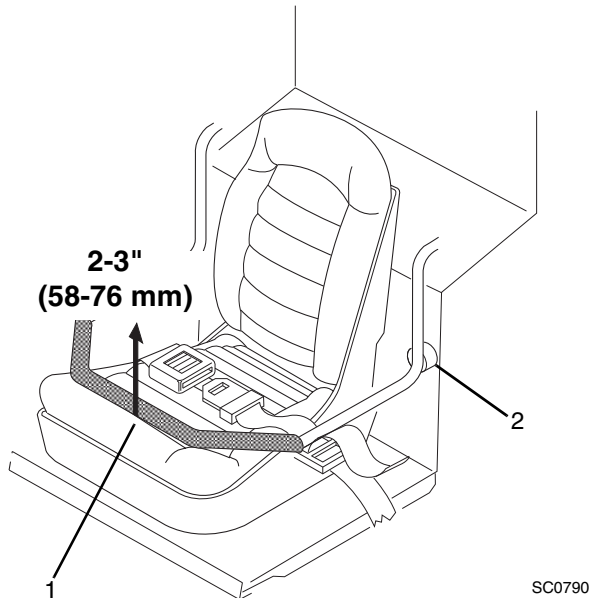
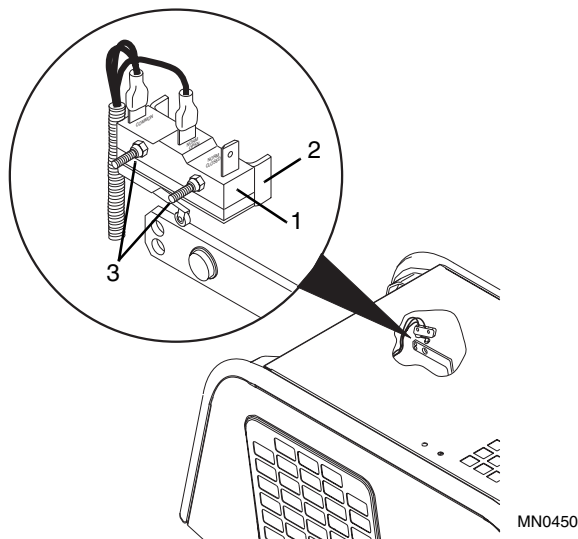

Figure 9-88 Loader Arm Lockout Micro Switch Adjustment
Figure 9-89 Seat Bar Micro Switch
36. Check the loader arm lockout micro switch (Fig. 9-89, 1) for proper adjustment. The seat bar (Fig. 9-88, 1) should be able to be raised 2-3" (58-76 mm) from the fully lowered position, with the bar resting against the rubber stops (2), before activating the loader arm lockout switch.
- a. Remove two plastic plugs on the left side of the cab to access the capscrews that secure the micro switch (Fig. 9-89, 1) to its mounting bracket (2). Loosen both locknuts (3) on the inside of the cab, until the micro switch (1) can be repositioned using a slight hand force.
- b. Reposition the micro switch (Fig. 9-89, 1) in small increments, rechecking the seat bar travel required to activate the switch with every move. When the seat bar travel (Fig. 9-88, 1) is within 2-3" (58-76 mm), tighten the two locknuts (Fig. 9-89, 3) securely.